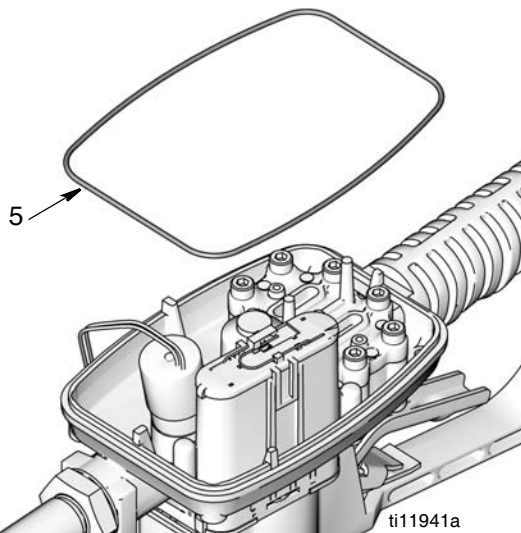

FIG. 35
- Remove and discard o-ring (5) (FIG. 35).